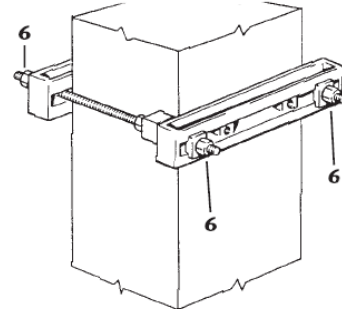

fig.29
3. Pretighten the nuts **6** to ensure good adherence to the pillar brackets (fig.29).